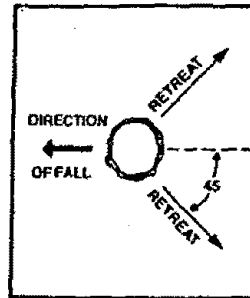

Figure 19
- Plan a clear retreat path to the rear and diagonal to the line of fall. Figure 19.